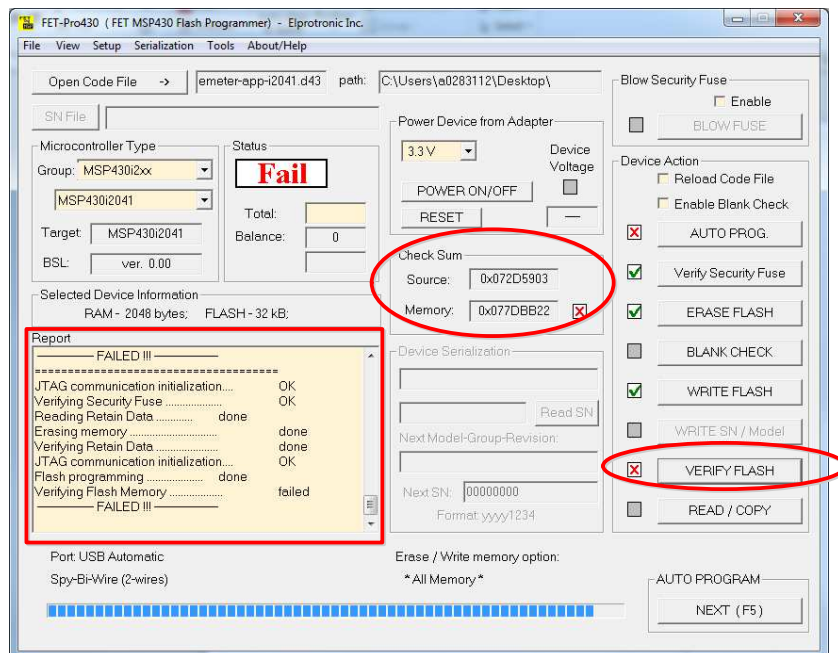

Figure 18. Note Failure on VERIFY and Confirm Check Sum
13. The software prompts a failure to verify (still troubleshooting this issue at the time of this writing); however, check that everything verifies an "OK" status except for "Verifying Flash Memory" (see Figure 18)